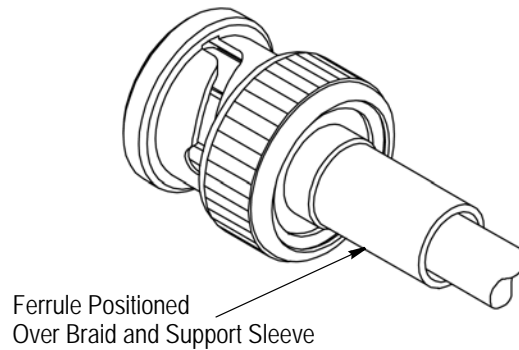

Figure 5
6. Slide ferrule forward over cable braid and support sleeve until it is positioned against the shoulder of the plug assembly. See Figure 5.